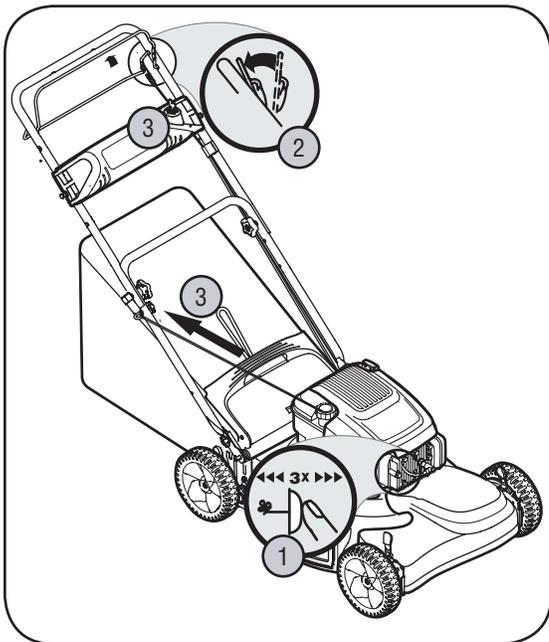

Figure 4-2
2. Standing behind the unit, depress the blade control handle and hold it against the upper handle as shown in Figure 4-2.
Recoil Start: Grasp recoil starter handle and pull rope out with a rapid, continuous, full arm stroke. See Figure 4-2. Keeping a firm grip on the starter handle, let the rope rewind slowly. Repeat until engine cranks. Let the rope rewind each time slowly.